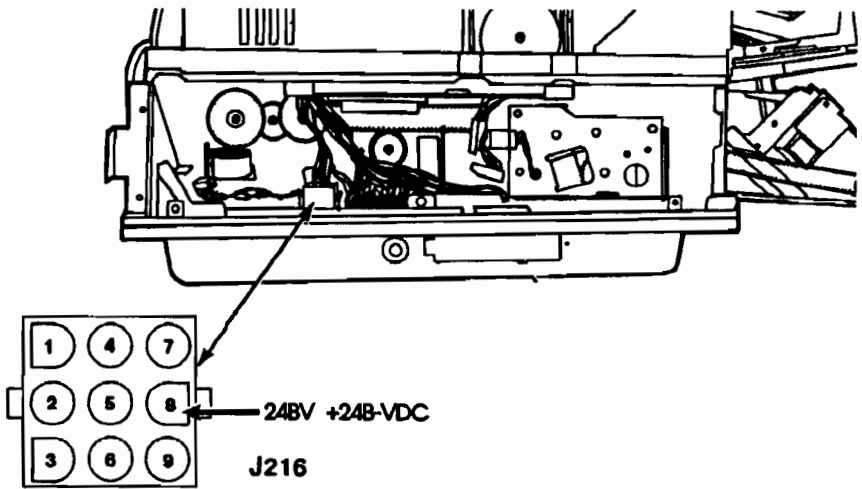
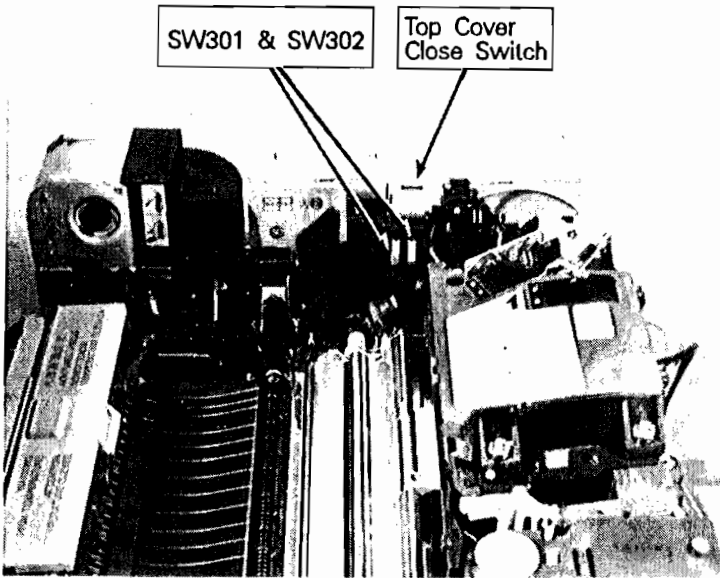

Figure 7-7. Measuring the +24B VDC
Figure 7-8.
2. Using a voltmeter with frame ground as a reference, monitor the voltage at J210-11 while manually activating the printer Top Cover Assembly closed microswitch (see Figure 7-7 and Figure 7-8). The measured voltage should toggle from zero to +3.2 Vdc ($\pm 5\%$) as the switch is activated. If the voltage is present, yet the message persists, replace the DC Controller PCA.
If the voltage is not present, +24B Vdc ($\pm 5\%$) can be measured at J216-8 while activating the Top Cover Assembly closed microswitch (see Figure 7-7).
Paper movement through the printer can be observed by initiating a TEST PRINT operation with the Top Cover Assembly open. To do this, open the Top Cover Assembly and defeat the Top Cover Interlock Switch. With one hand, hold down one of the Drum Sensitivity Microswitches (see Figure 7-8) and, with the other, press the TEST PRINT button on the lower right side of the printer. This should feed paper up to the point it enters the Fusing Assembly. By holding down the fusing system drive lever (see Figure 7-18), the paper will continue through the Fusing Assembly as well. Note that there will be a momentary pause in paper movement, followed by an ERROR 51 indication. This is normal operation since the Laser Shutter Arm, normally engaged by the EP-S Cartridge, does not allow laser light to reach the beam detect cable.
2. Defeat the Top Cover Assembly Interlock and EP-S Cartridge Installed/Drum Sensitivity Microswitches as shown in Figure 7-8.